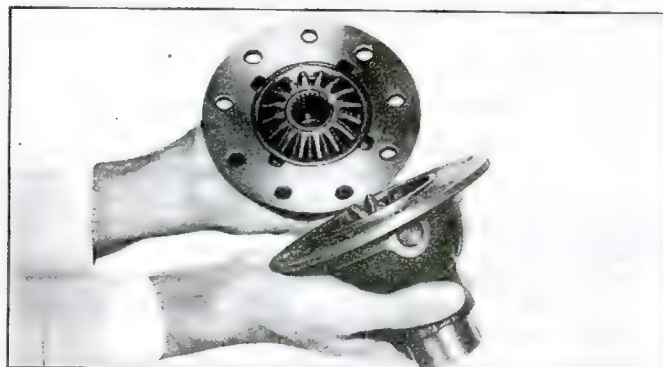

Fig. 56—Separating Case and Cover
4. Remove two flat head screws, if present, and separate case and cover (fig. 56). Left hand differential side gear, pinion shaft and pinions are disassembled in the same manner as the standard differential.